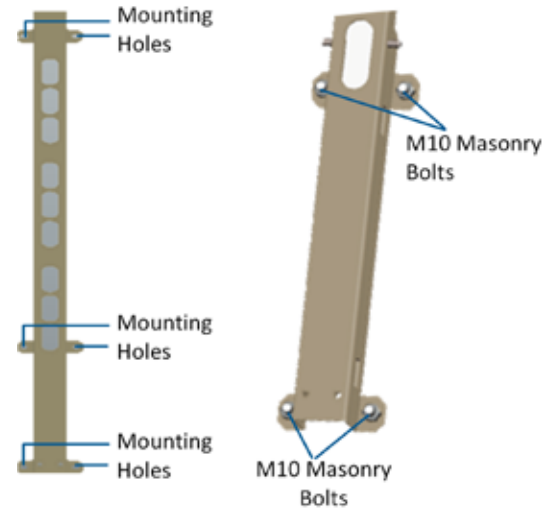

Figure 6. GX Bracket Wall-Mountable Option
- Step 1.** Using the mounting bracket top and bottom mounting holes as a guide (see Figure 6), measure and mark the location for drilling the (supplied) M10 masonry bolts (12 diameter) in the wall (six per bracket).
- Step 3.** Using six (M10x110) masonry bolts per bracket – secure the mounting brackets to the wall with the protruding M8 nuts facing toward you. See Figure 6.